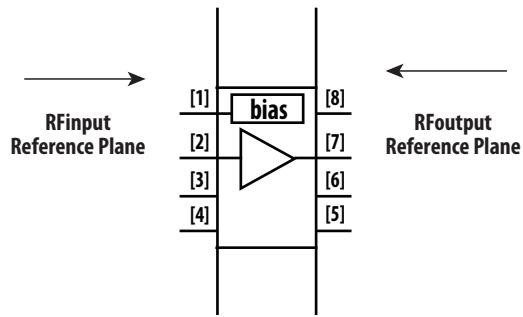

Figure 32.
2. Scattering and noise parameters are measured on coplanar waveguide made on 0.010 inch thick ROGER 4350. The input reference plane is at the end of the RFinput pin and the output reference plane is at the end of the RFoutput pin as shown in figure 32.